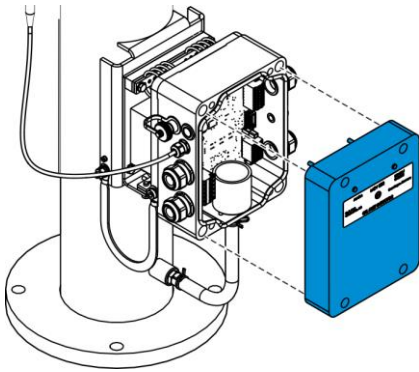

Fig. 71: Attaching the housing cover
12. Attach the housing cover (Fig. 71).